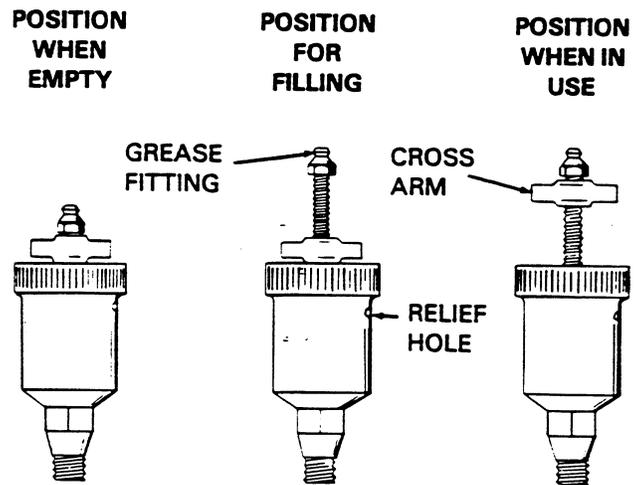

Figure 5. Automatic Lubricating Grease Cup
Turn the cross arm on the automatic lubricating grease cup (13) clockwise until it rests against the cover (see Figure 5). This will prevent the grease from escaping when the impeller is removed.
Fill the grease cup (13) through the grease fitting with No. 2 lithium base grease until grease escapes from the relief hole. Turn the grease cup arm counterclockwise until it is at the top of the stem; this will release the spring to apply grease to the seal (see Figure 5).